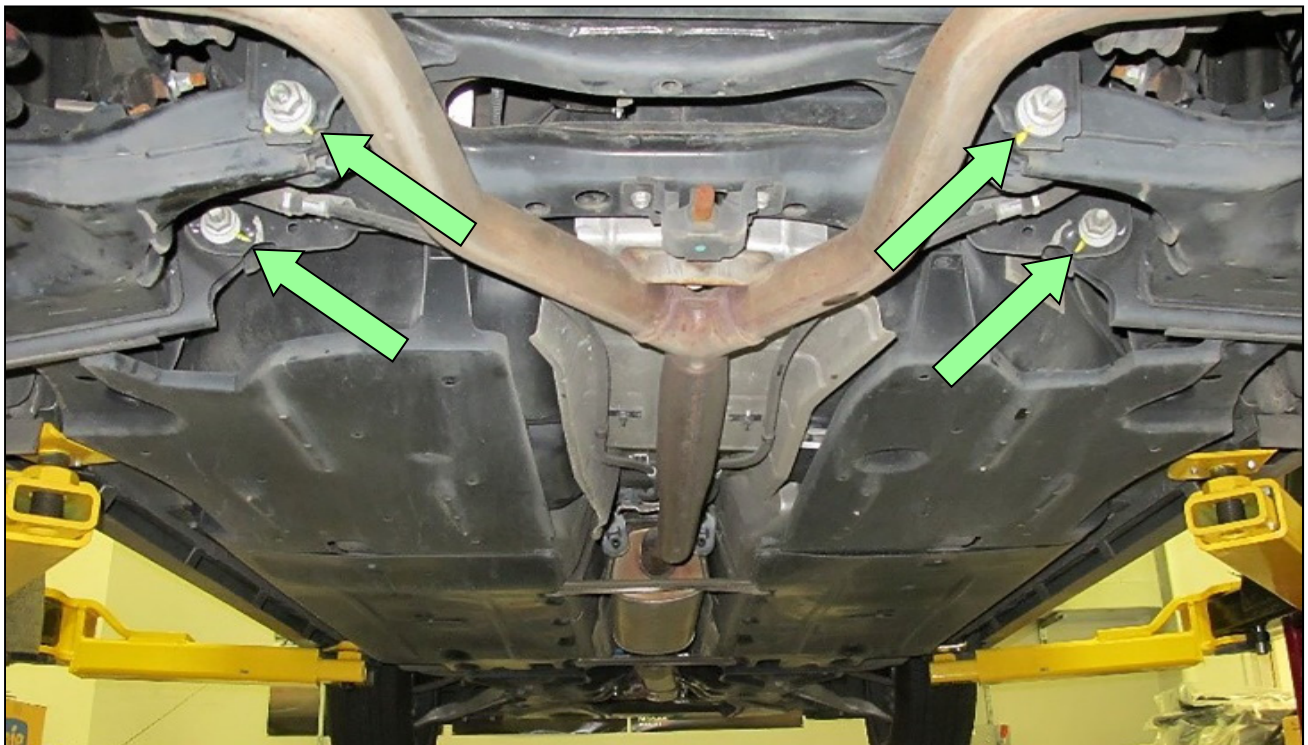

Figure 2
3. Mark the suspension alignment washer to the frame on all four (4) rear lower link alignment bolts (see Figure 2).